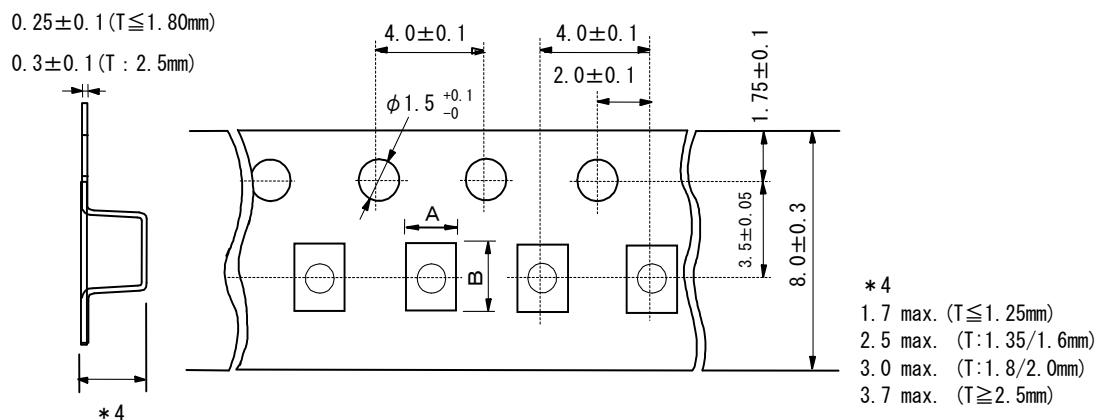

Fig.1 Package Chips (in:mm)
2.6 Chip in the tape is enclosed by top tape and bottom tape as shown in Fig.1.